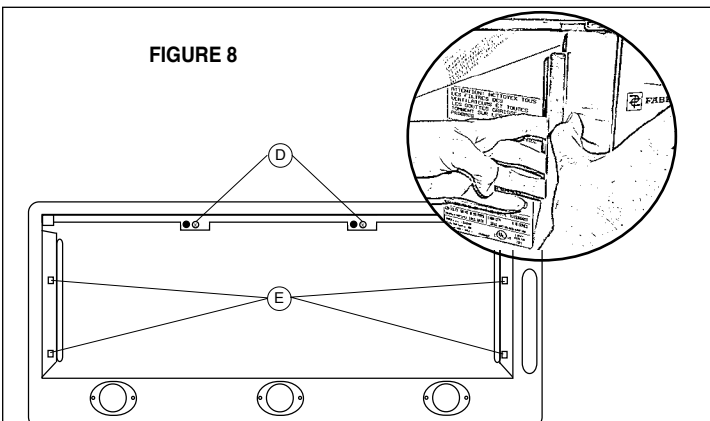

FIGURE 8
4. Remove the two philips screws **(D in FIGURE 8)**. Remove the entire bottom of the rangehood by pushing your thumb into the side holes **(E in FIGURE 8)** and pulling the sides free from the rangehood.